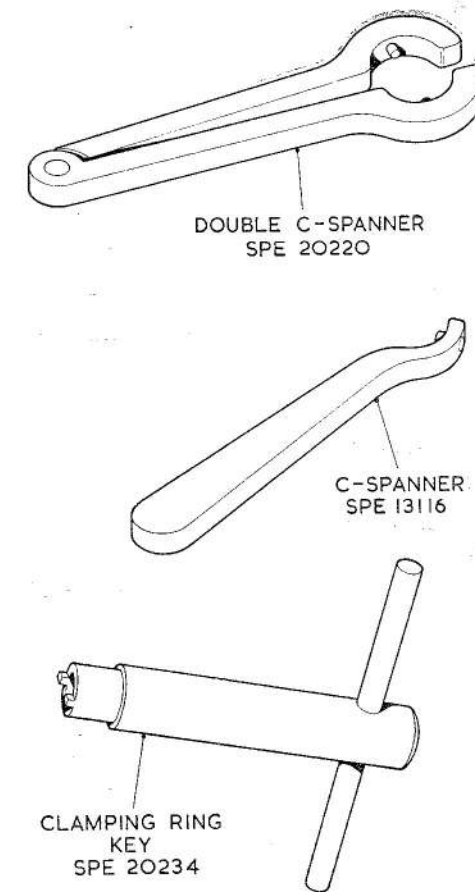

Fig. 8. Relief valve dismantling and assembling tools
7. (1) Hold the relief valve body (100) with the C-spanner SPE.13116 (fig. 8) and unscrew the locking ring (95) using the double-C-spanner SPE.20220. Re-